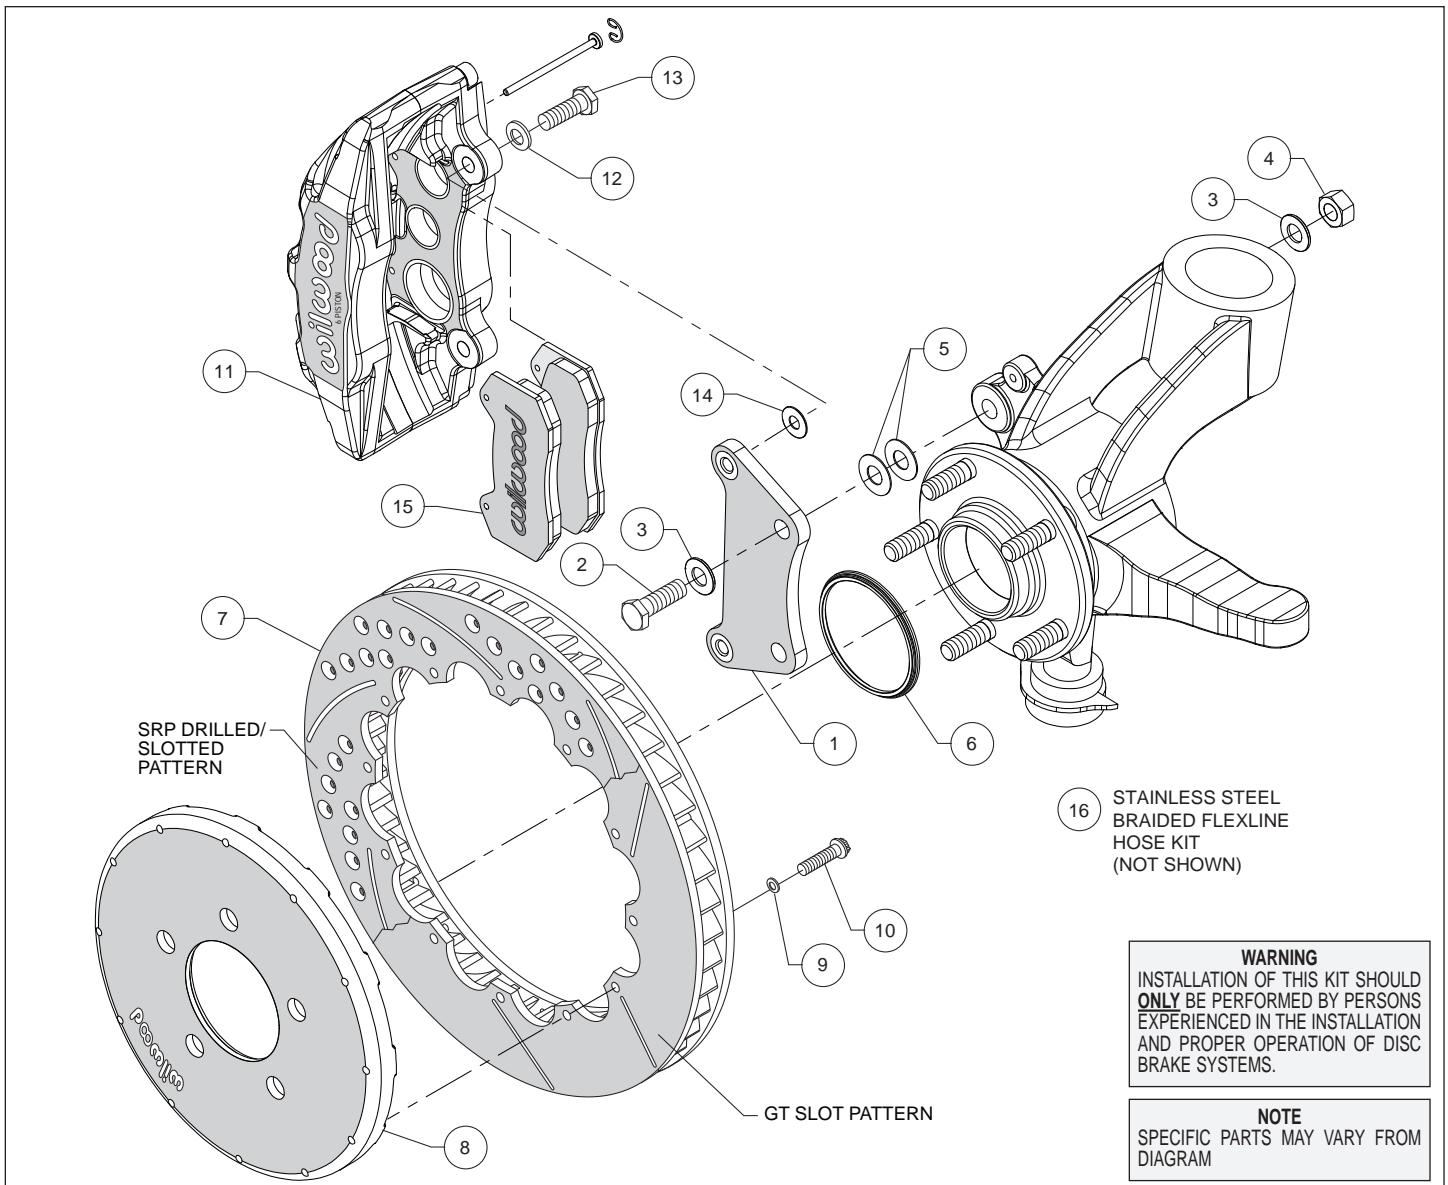
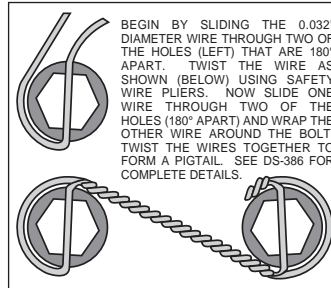

Figure 1. Typical Installation Configuration
Figure 3. Safety Wire Diagram
**Assembly Instructions** (numbers in parenthesis refer to the parts list and Figure 1 on the preceding pages):
- Orient the caliper mount bracket (1) as shown in Figure 1 and Photo 1, and install using bolts (2), washers (3), and nuts (4). Place two .033" thick shims (5) on each bolt between the bracket and caliper mounting bosses, Figure 1. Ensure that the flanged heads of the clinch nuts in the bracket are facing outboard, Photo 1. Temporarily tighten the mounting bolts. **NOTE:** The bracket must fit squarely against the mount bosses on the upright. Inspect for interference from casting irregularities, machining ridges, burrs, etc. Remove bolts one at a time, apply red *Loctite*® 271 to the threads and torque to 60 ft-lb.
- Orient the rotor (7) and the hat (8) as shown in Figure 1 and Photo 2. Attach rotor to hat using bolts (10) and washers (9). Using an alternating sequence, apply red *Loctite*® 271 to the threads and torque bolts to 155 in-lb. For an added measure of security, the bolts may be safety wired using standard 0.032 inch diameter stainless steel safety wire as shown in Figure 3.
- **NOTE:** This kit contains distinct right and left hand calipers that must be mounted in a specific direction, as described below. Mount the caliper (11) onto the caliper mounting bracket (1) using bolts (13) and washers (12), as shown in Figure 1. Initially place one .035" thick shim (14) on each bolt between the caliper and the bracket, Figure 1 and Photo 5. Ensure that the caliper is mounted so the largest pistons are at the rotor exit end of the caliper, in relation to the direction of rotor rotation. Temporarily tighten the mounting bolts and view the rotor (7) through the top opening of the caliper. The rotor should be centered in the caliper, Photo 6. If not, adjust by adding or subtracting shims (14) between the bracket and the caliper. Always use the same amount of shims on each of the two mounting bolts. Once the caliper alignment is correct, remove the mounting bolts and caliper.
- Remove the two pad retaining pins from the caliper (11) by carefully popping out the pin retaining clips and sliding out the pins. Insert the brake pads (15) into the caliper from the bottom, Figure 1 and Photo 7, with the friction material facing the rotor. Secure the brake pads in place with the pad retaining pins and clips, Photo 8. Reinstall the caliper onto the caliper mounting bracket. Apply red *Loctite*® 271 to bolt threads (13), and torque to 40 ft-lb.